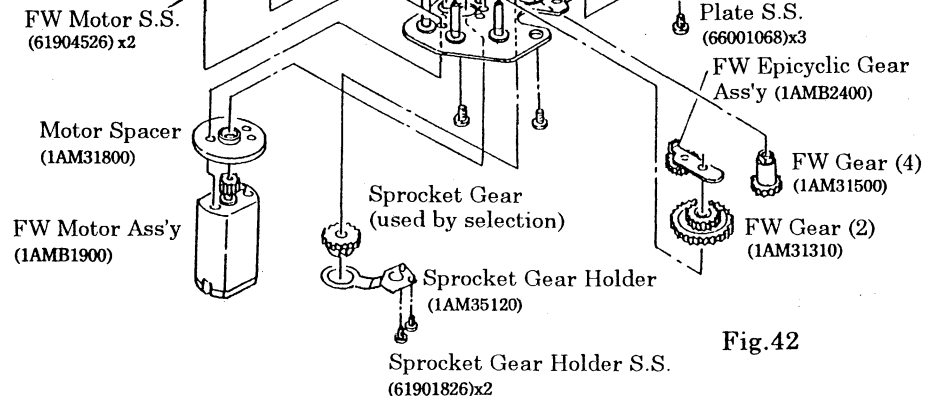

Fig.42
- 1) Remove the Sprocket Gear Holder Setscrews (61901826)×2 and take off the Sprocket Gear Holder (1AM35120) and Sprocket Gear (17437010) (or Sprocket Gear (A) (17436910) used by selection).
- 3) Disassemble the Winding Unit Ass'y as shown in Fig. 42.
- 1) As shown in Fig. 42, install the parts on the FW Upper Base Plate.
- 2) As shown in Fig. 42, install the parts on the FW Lower Base Plate.